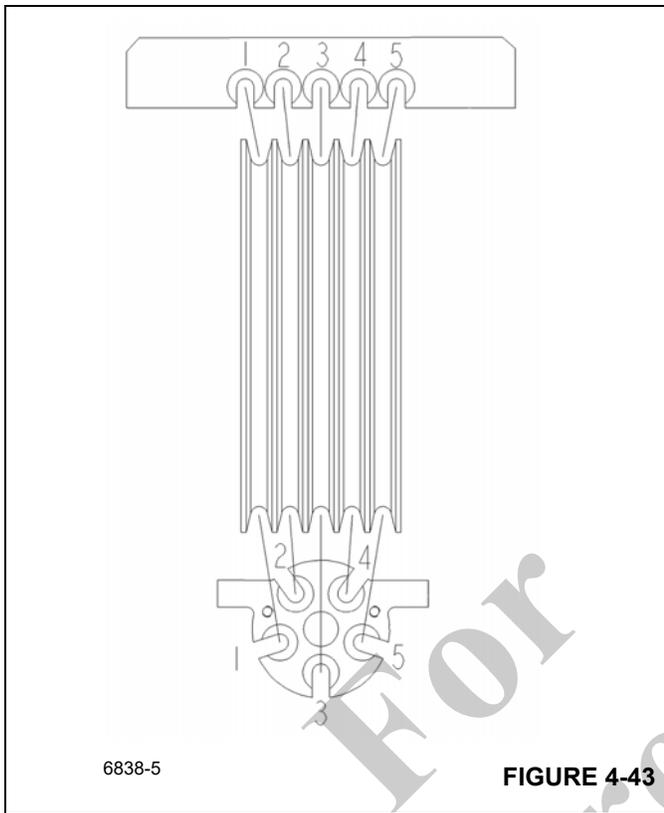

FIGURE 4-43
5. Mark **BOTH ENDS** of the five extend cables (Figure 4-43).